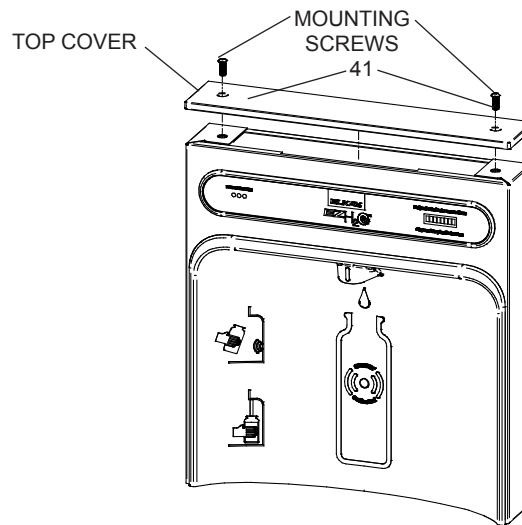

Fig. 7
- 9) Once Bottle Filler is installed on wall plate tabs, water line and power cord are installed properly, push top of Bottle Filler toward wall and line up top cover two (2) holes.
- 10) Reinstall Top Cover on Bottle Filler (See Fig. 7) with two mounting screws from step 1 above. Caution, do not over tighten screws.